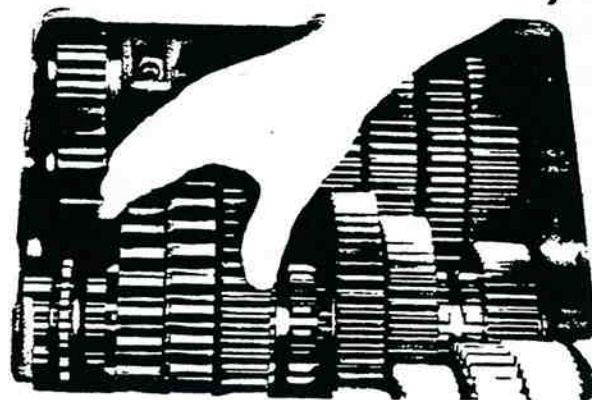

Figure 13-35. Moving Reverse Gear and Reverse Clutch.
3. Engage reverse gear with the 1st-reverse sliding clutch and move the reverse gear forward against the 1st speed gear (figure 13-35).